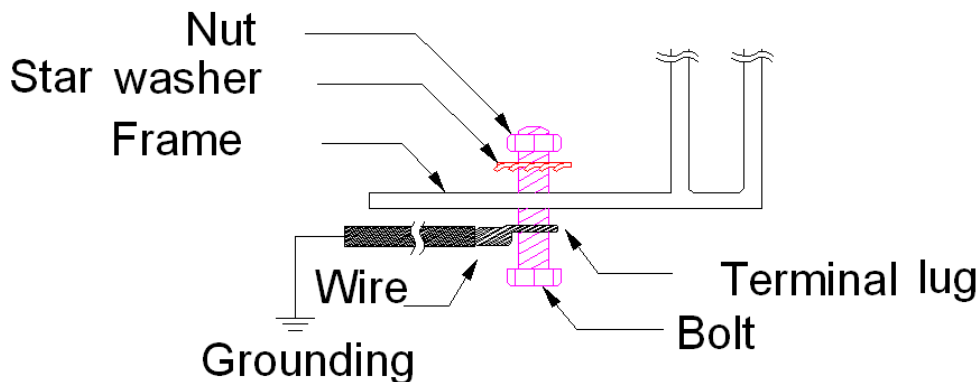

Fig. 7 Grounding connection structure
- 1) Each PV module must be grounded with the grounding holes on the frames. The PV module has 8 of  $\Phi 3.5mm$  holes in its frame for grounding purpose (Fig. 7). Select at least one grounding hole according to PV module mounting mode.
- 3) Grounding cables must be bolted or screwed with star washers (Fig. 7).